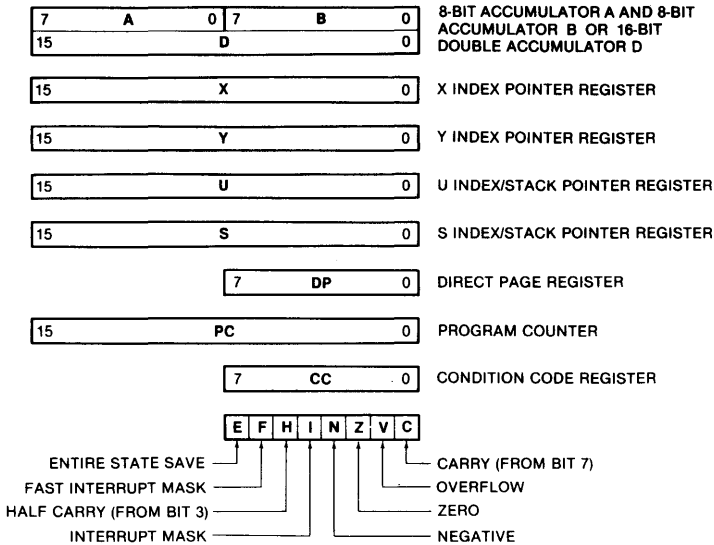

Fig. 1-3. 6809 internal registers.
Compared with the 6800 architecture the 6809 adds an 8-bit register and three 16-bit registers as shown in Fig. 1-3. The additional 8-bit register is the direct page register, which will allow you to use the direct addressing mode anywhere within the 6809 memory map. (Recall that direct addressing is limited to the first 256 bytes of memory with the 6800.) The three additional 16-bit registers include a 16-bit accumulator, index register, and stack pointer. The additional accumulator is referred to as accumulator D and is simply the concatenation of the two 8-bit accumulators, A and B. The additional index register is called the Y index register (Y) and the additional stack pointer is referred to as the user stack pointer (U). The two index registers, X and Y, will also function as pointers and the two stack pointers (S and U) can be used for indexing.
In addition, you will note from Fig. 1-3 that all 8 bits of the condition code register (CC) are being used in the 6809. Recall that only the first 6 bits are utilized in the 6800. The functions of the first 6 CC bits (C, V, Z, N, I, H) in the 6809 are identical with those of the 6800. The two additional bits (F and E) are used in conjunction with the 6809's interrupts. The use of these two additional bits will be discussed in detail in subsequent chapters.